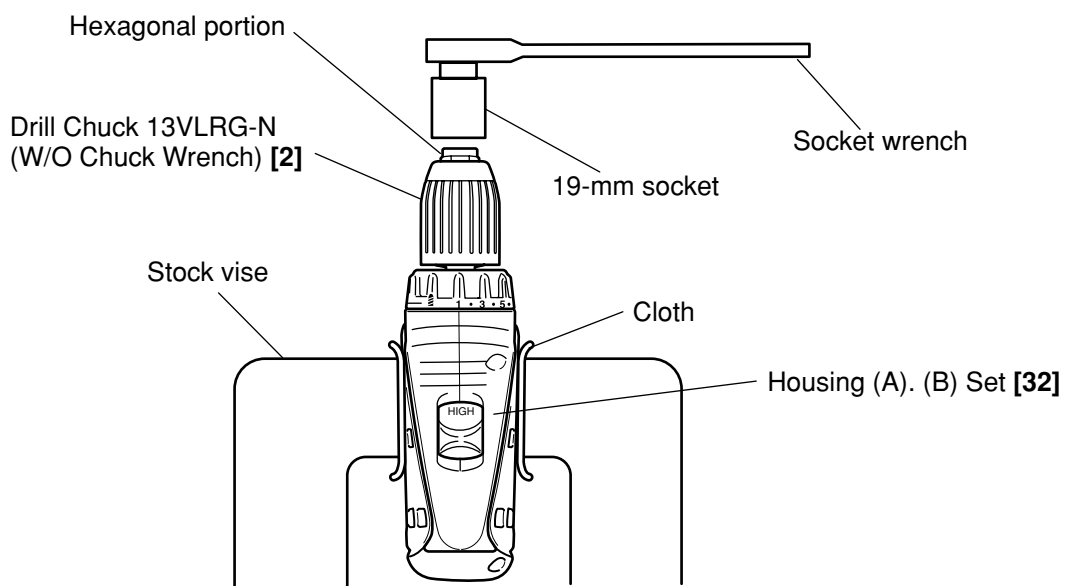

Fig. 4
(1) Removal of the Drill Chuck 13VLRG-N (W/O Chuck Wrench) **[2]** (See Fig. 4.)
- (b) Turn the hexagonal portion at the tip of the Drill Chuck 13VLRG-N (W/O Chuck Wrench) **[2]** counterclockwise with a 19-mm socket wrench to remove the Drill Chuck 13VLRG-N (W/O Chuck Wrench) **[2]** as shown in Fig. 4. If it is difficult to loosen, use a pipe extension or similar tool. Carry out steps (a) and (b) with the main body clamped in the stock vise. It is recommended to fit a piece of cloth between the main body and the vise to protect Housing (A).(B) Set **[32]** from scratching.